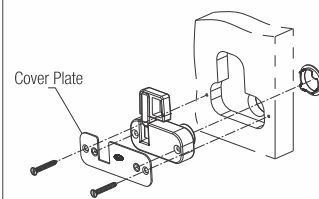

Fig. 2
2. Insert the lock into the cavity in sliding shutter and screw the cover plate as shown in Fig. 2.